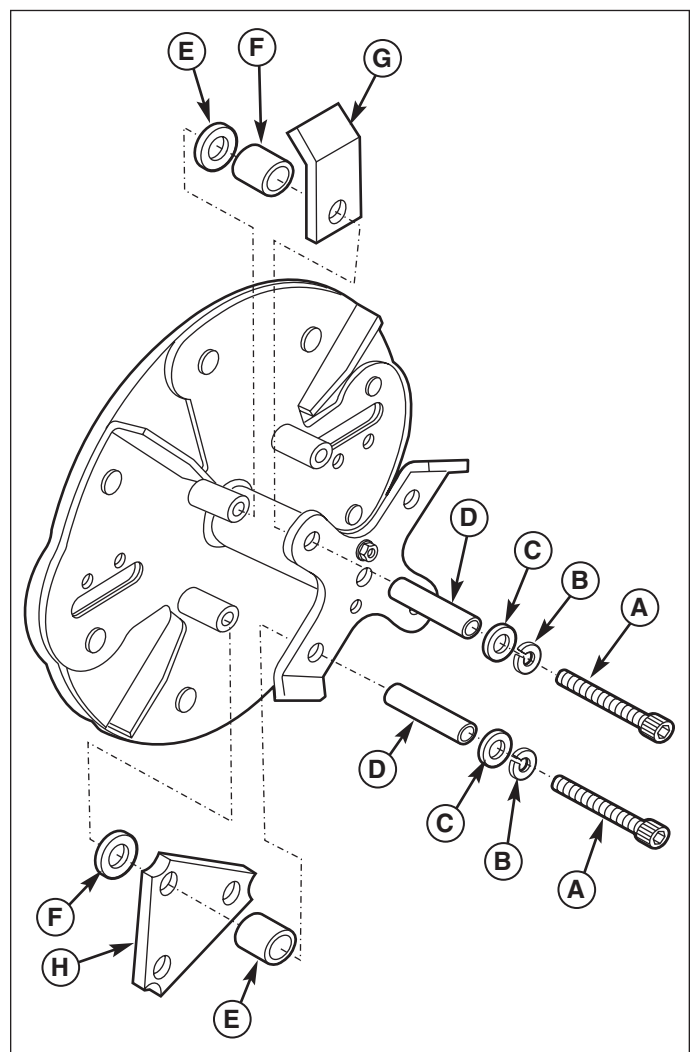

Figure 14. Removing the Rotor Housing
5. Note the assembly sequence of the hardware used to secure the hammers (Figure 14). Using a 5/16" allen wrench remove the socket head capscrew (A) and related hardware.
8. Reassemble the hammers, spacers, washers, and capscrews. Torque the socket head capscrews (A) to 30-35 ft. lbs. (41-47 N.m.) Refer to Figure 14 for assembly. The J-hammer (G) on the opposite side of the rotor faces outward for balanced rotation.